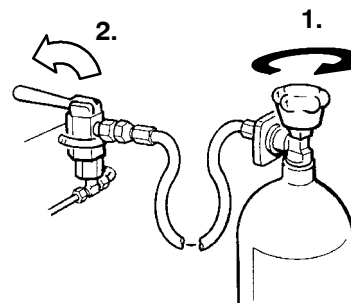
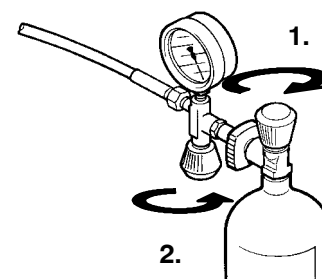

Fig. 24 Removing air bottle
Fig. 25 Removing air bottle
- Upon reaching final bottle pressure **close bottle valve first, then filling valve**. Fig. 24 and Fig. 25